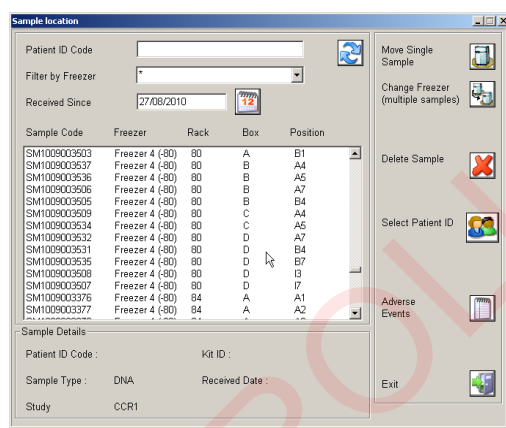

Figure 9 - Freezer List
11. Check the next available space from the list (Figure 9).